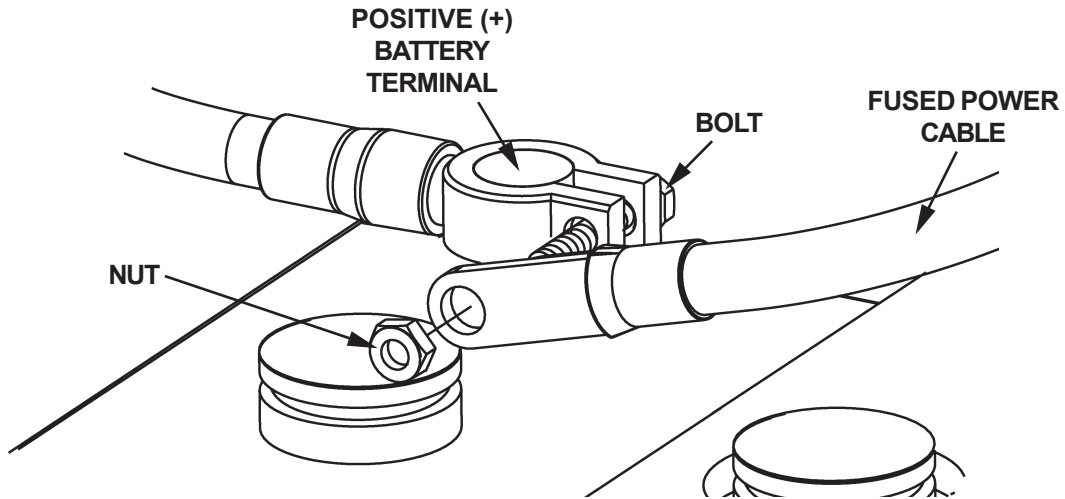

FIG. 1
1. Shut off power to pump by removing nut from positive (+) battery terminal connector and disconnect Power Cable (**FIG. 1**). Re-install nut on positive (+) battery terminal connector.